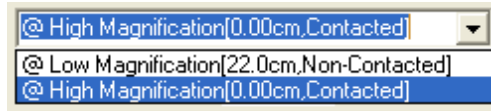

Fig 5-48 Default Scale file
- Default Scale file, see Fig 5-48.